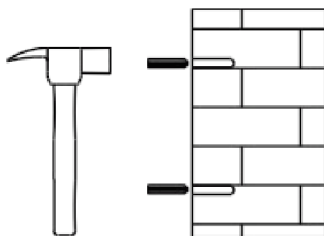

Fig. 13
6. Insert the rubber expansion plugs into the 4 holes in the wall. (Fig. 13)